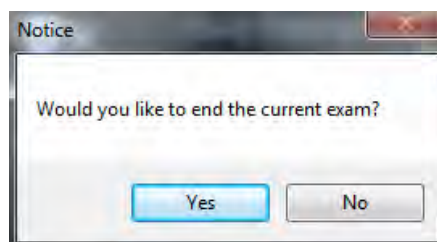

Figure 79: Window for New Exam
**NOTE:** Edit the size. If you select the units in feet (ft), the system automatically displays "inches" in the input field , see Figure 79.
Process: Go to **New Patient Info** on the screen, click on the **New Exam** button and a notice box appears on the screen (Figure 79). Use the trackball to move the cursor over **Yes** and click on **Set** to confirm the completion of the current examination. Next, select a new examination type under the same patient data.